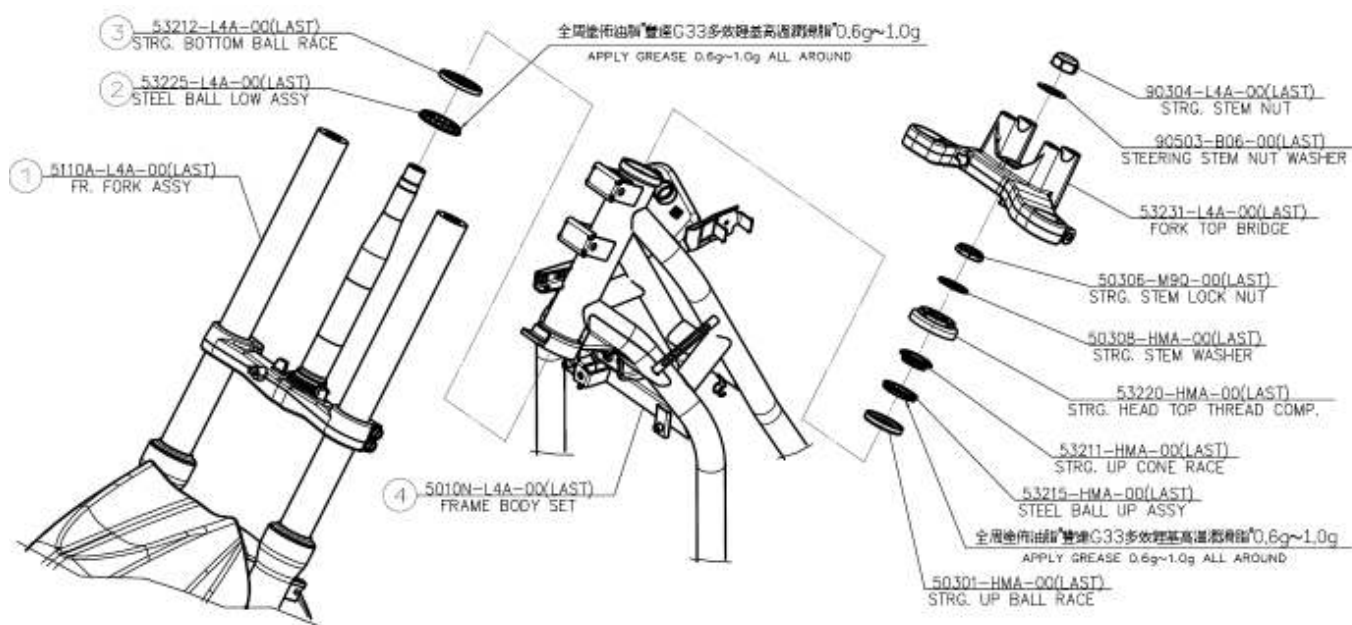

Fig.1 Steering system components.
**Steps:** please refer to figure 1
1. Stay front wheel on the ground, and make sure that the component ①,②,③,④ are connected all together appropriately.